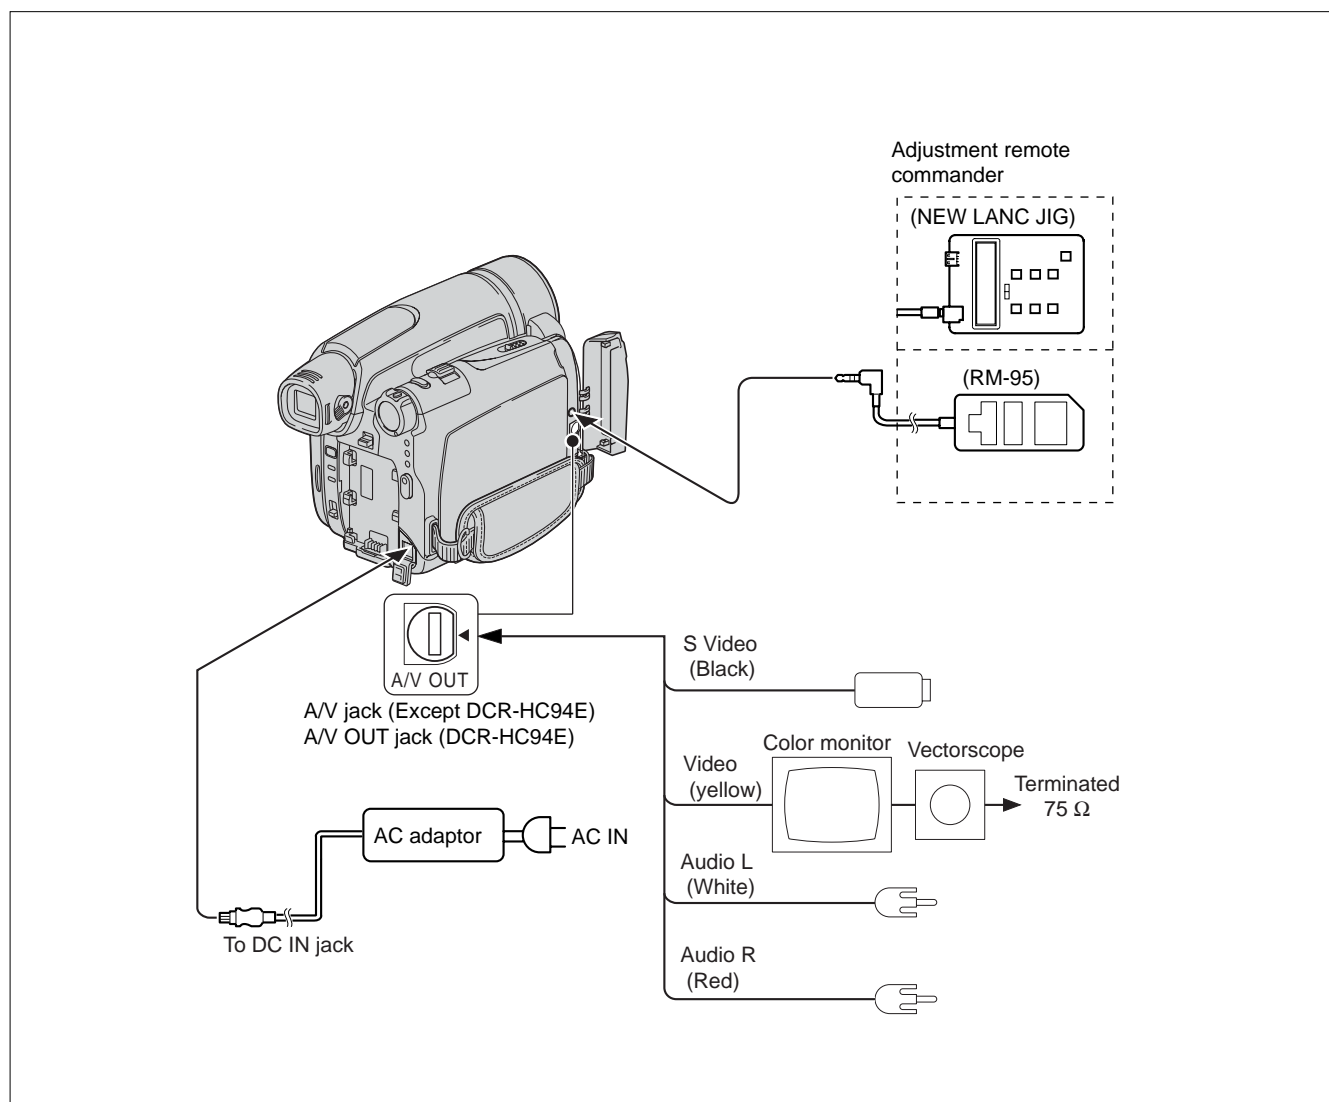

Fig. 6-1-3
- 1) Connect the equipment for adjustments according to Fig. 6-1-3.